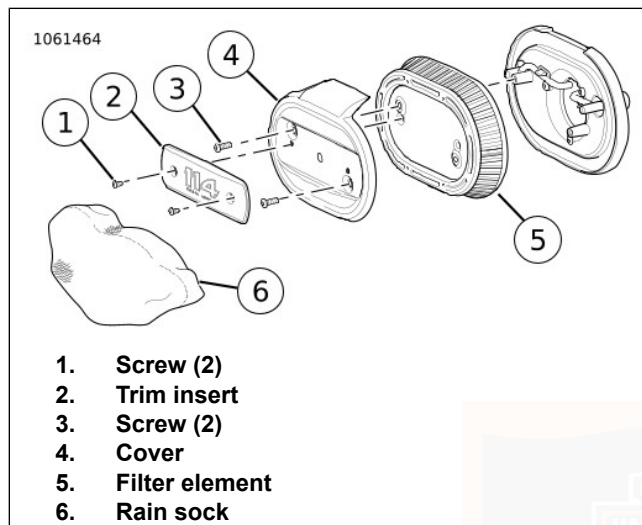

Figure 81. Air Cleaner: Oval
1. See Figure 81. Remove air cleaner trim insert.
- a. Remove trim insert screws (1).
- b. Remove trim insert (2).
- a. Remove screws (3).
- b. Remove cover (4).
- c. Remove filter element (5).
If equipped with oval air cleaner: See Figure 81. In wet or rainy conditions, because the filter element is exposed, water can enter the engine. When parked, water can cause internal engine corrosion or damage. When running, water can cause the engine to misfire. In wet or rainy conditions, install the rain sock (6) over the air cleaner assembly to minimize water intrusion.
1. See Figure 81. Install cover and filter element.
- a. Install filter element (5).
- b. Install cover (4).
- c. Install screws (3). Tighten.